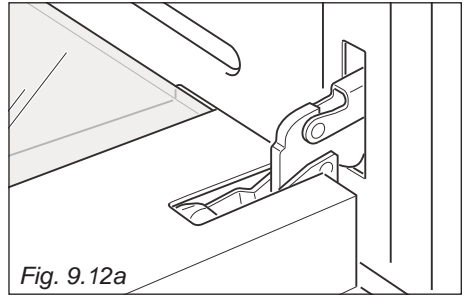

Fig. 9.12a
- Open the door to the full extent (fig. 9.12a).